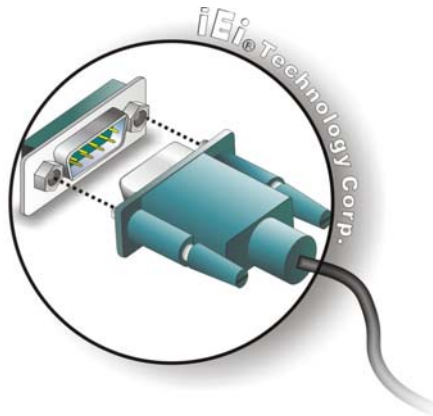

Figure 2-9: Serial Device Connector
Step 2: Insert the serial connector. Insert the DB-9 connector of a serial device into the DB-9 connector on the bottom panel. See **Figure 2-9**.